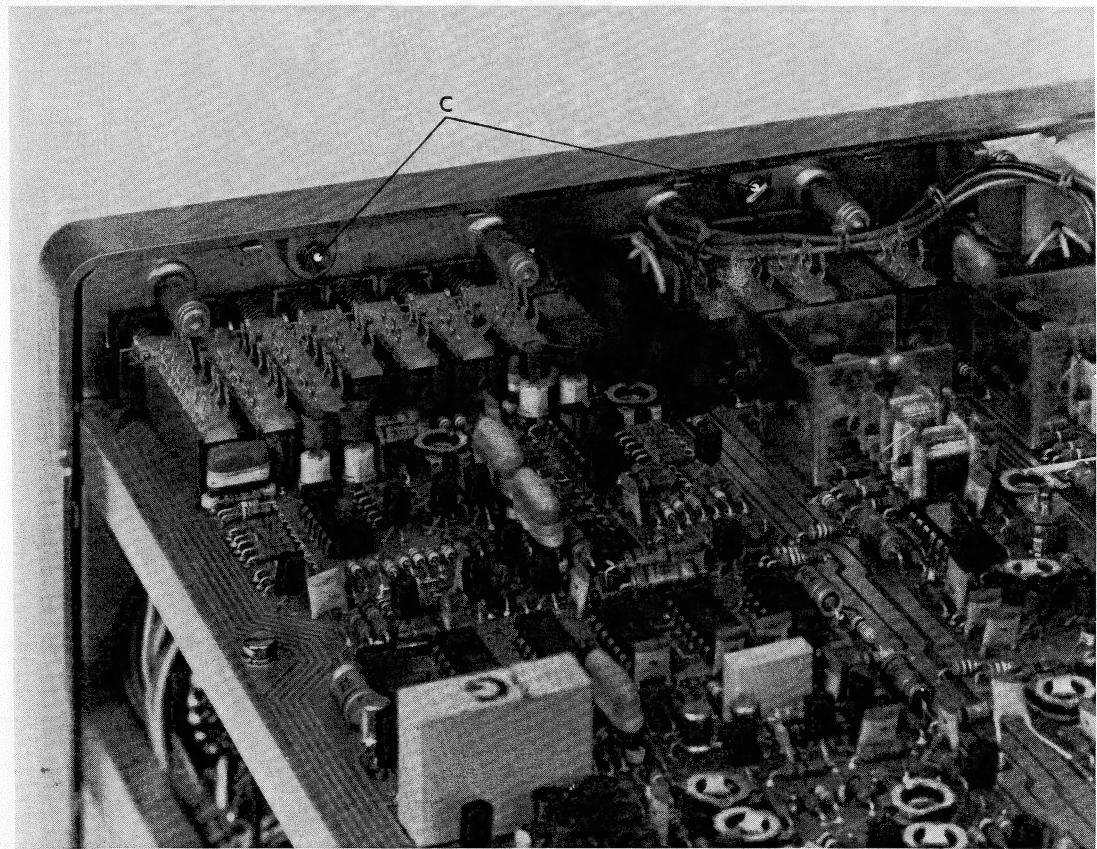

Fig. 3.5 Removing the front assembly (screws C)
- Remove the two screws C (Fig. 3.5)